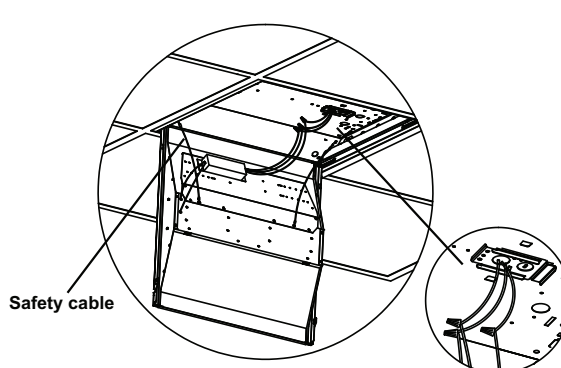

Fig. 5
6. Pass grommet. Wire according to diagram on page 2. (Choose appropriate method for general or emergency models.) Hook the safety cables into the holes positioned the end brackets. (Fig.5)